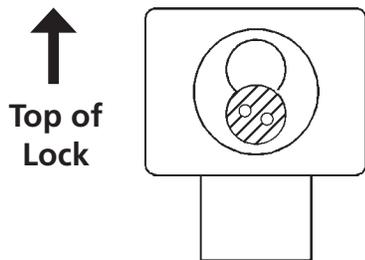

Fig. 4a - Front of drawer lock with prong driver in correct orientation
Step 7 - Insert the black plastic actuator and turn until the bolt is completely extended and the prongs are just past horizontal as in *Fig 4a*.